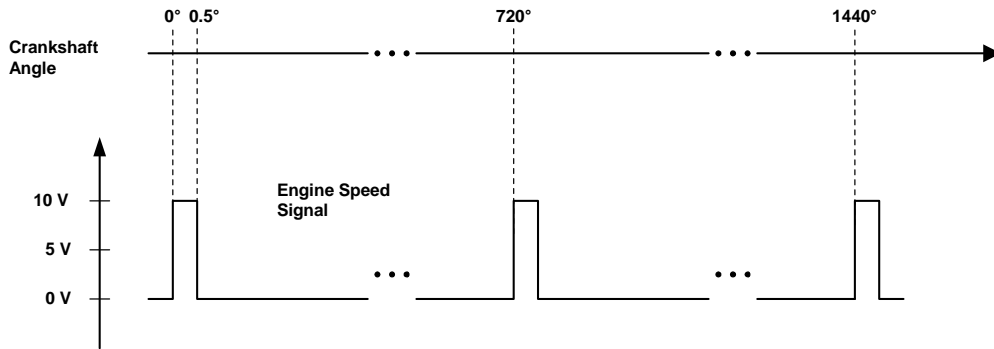

Fig. 8-9 Signal for Synchronizing to 0° Camshaft
- of the signal for synchronizing to 0° camshaft (see Fig. 8-9)